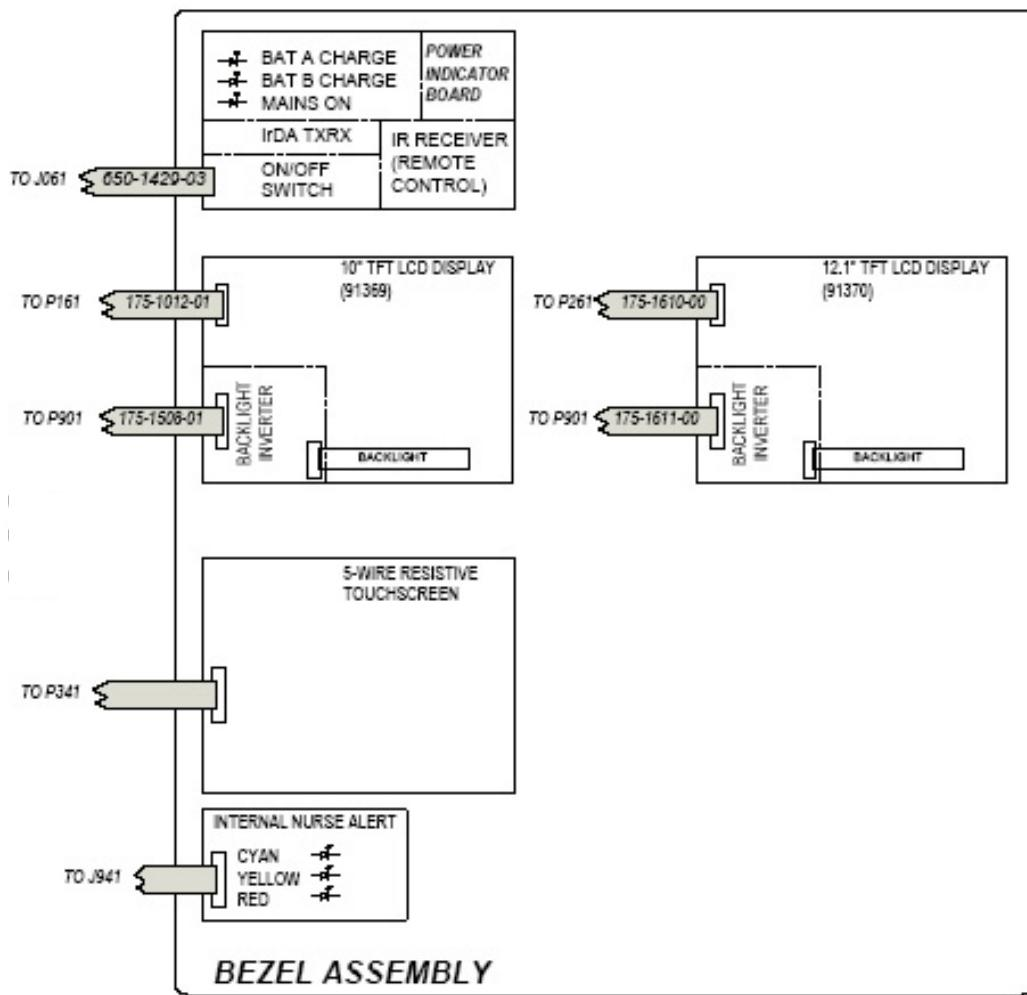

Figure 3-7: Bezel assembly
**The Bezel Assembly is comprised of four items (Figure 3-7):**